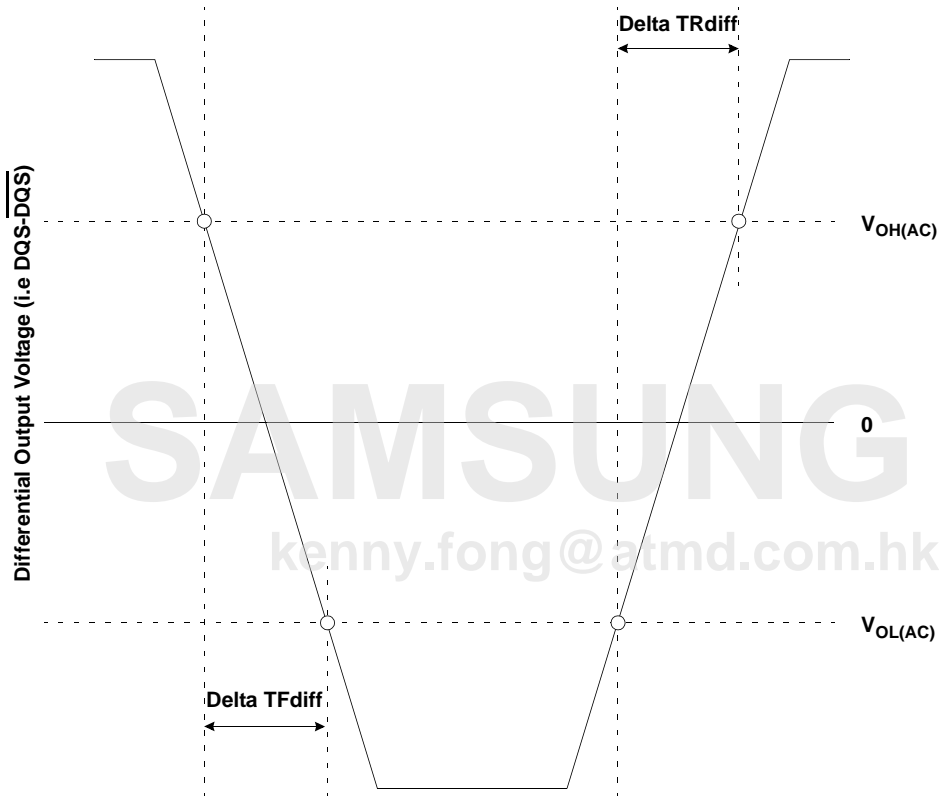

Figure 9. Differential Output Slew Rate Definition
With the reference load for timing measurements, output slew rate for falling and rising edges is defined and measured between VOLdiff(AC) and VOHdiff(AC) for differential signals as shown in Table 28 and Figure 9.